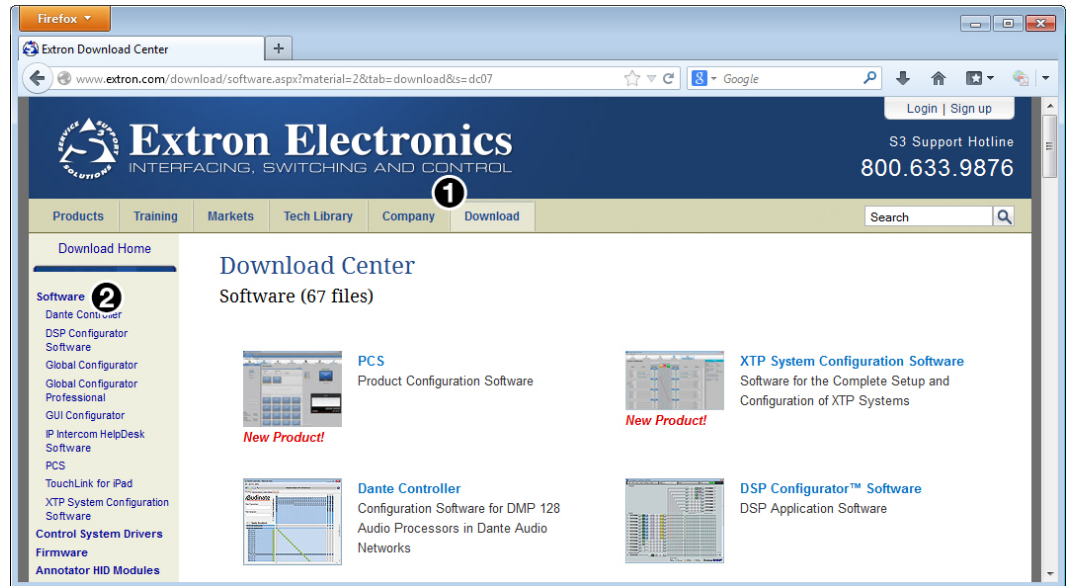

Figure 29. Software on the Extron Website
1. On the Extron website, click the **Download** tab (see figure 29, ①).
2. From the left sidebar, click the **Software** link (see figure 29, ②).